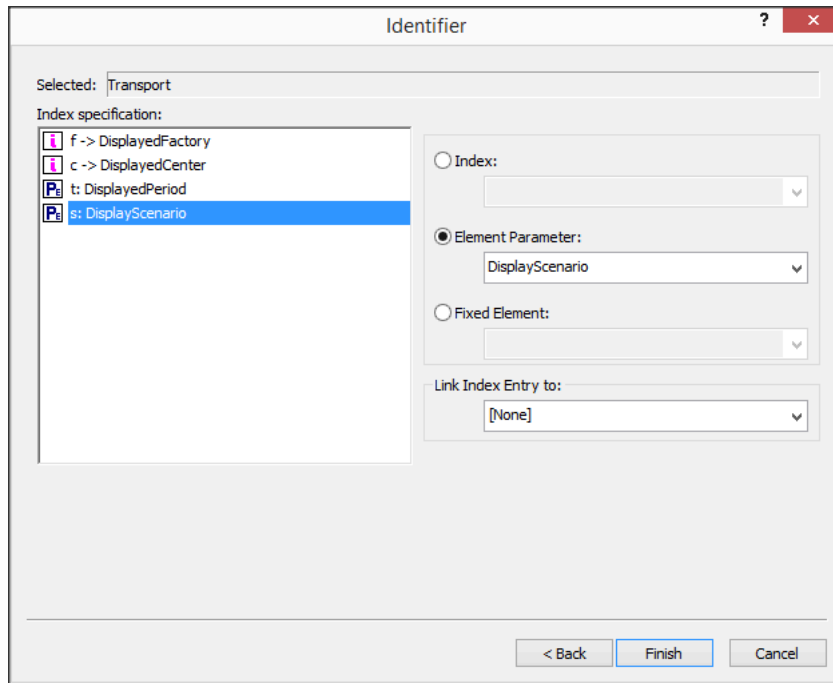

Figure 11.27: Fixing indices of the variable Transport
- ▶ press the **Finish** button (see Figure 11.27), and